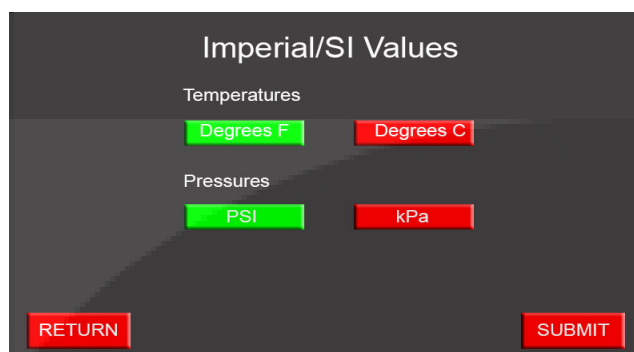

Figure 4-13 Parameter Units Screen (Typical)
The Imperial/SI Values Screen, shown in Figure 4-13, allows the operator to select Imperial or *Système Internationale* (SI) (also known as metric) units of measurement. The default units of measure are Imperial units of degrees in Fahrenheit and pounds per square inch (PSI), but the user may elect degrees in Celsius or kilo Pascal (kPa).